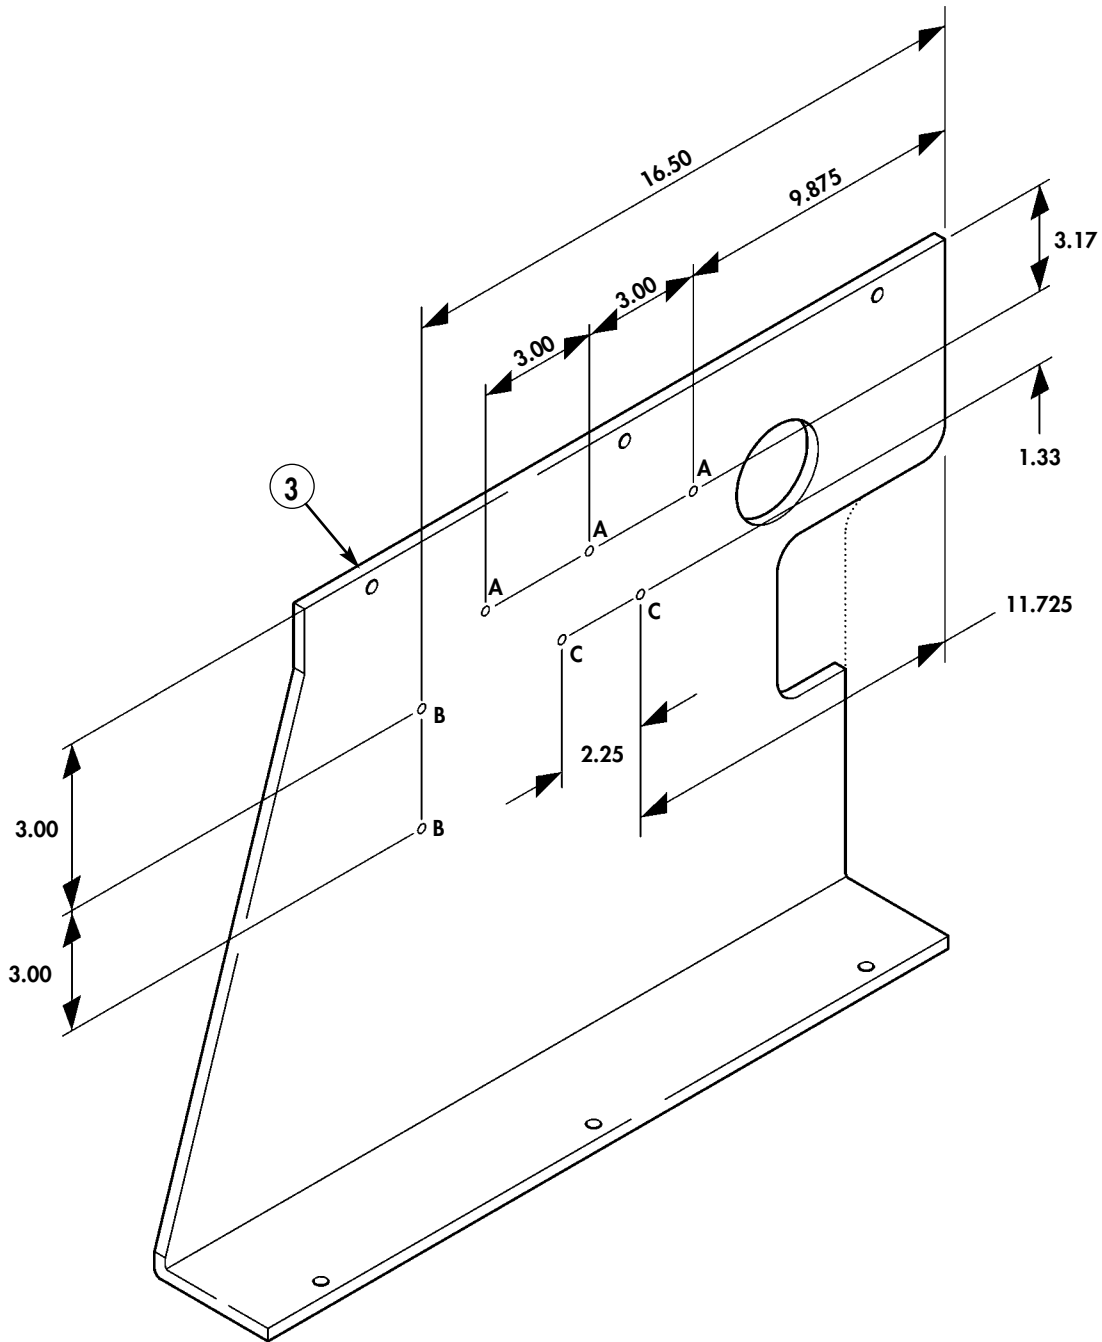

Figure 5-2.
- Use figures 5-2 and 5-3 to identify cab enclosure panel that is being modified.
- 3-3.** Locate, mark, and drill three 0.156-in. diameter holes marked A in cab enclosure panel (3) as shown in figures 5-2 and 5-3.
- 3-4.** Locate, mark, and drill two 0.156-in. diameter holes marked C in cab enclosure panel (3) as shown in figures 5-2 and 5-3.
3-5. Locate, mark, and drill two 0.196-in. diameter holes marked B in cab enclosure panel (3) as shown in figures 5-2 and 5-3.